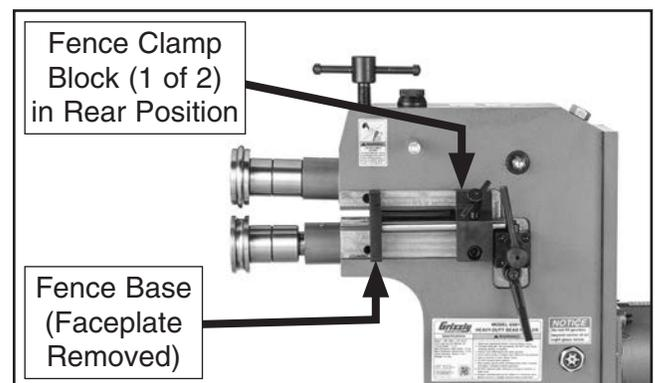

Figure 15. Fence installed in rear position.
- **Rear Position** (see **Figure 15**): Use for beads farther away from the workpiece edge. The fence adjusts from 5½"–10¼" from the mandrels.